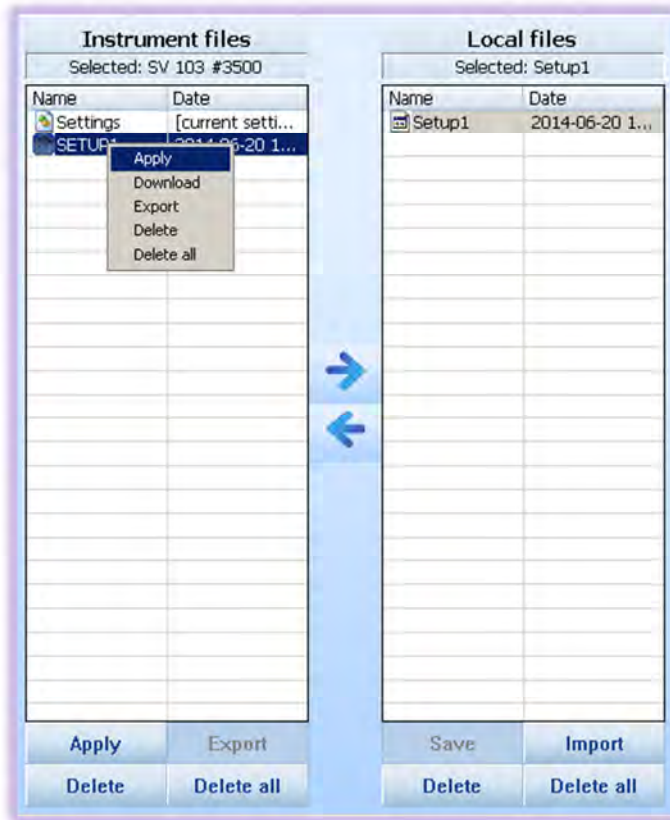

Figure 5-6 "Instrument files" panel and context commands
10. Once copied select the copied file in the Instrument files, and right click onto it to open context menu. Then choose **"Apply"** command (Figure 5-6). Alternatively you can enter the **"Load Setup"** menu directly in the instrument and load it as the current configuration. See chapter 4.4 for details.